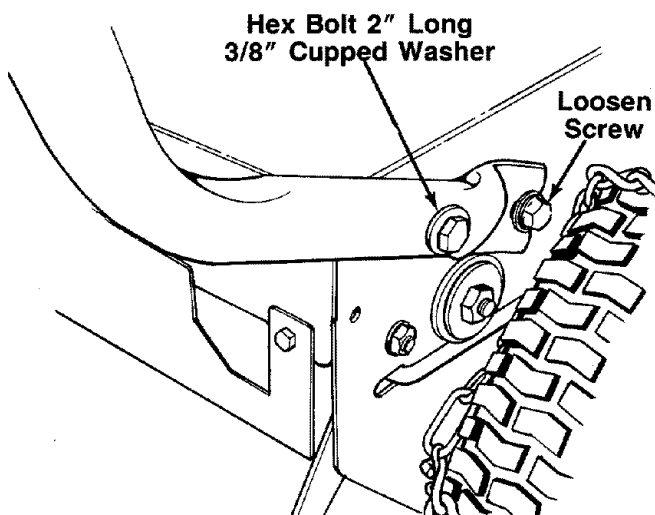

FIGURE 5.
- A. Loosen one self-tapping screw and cupped washer on each side of the unit. See figure 5. A 9/16" or adjustable wrench is required.